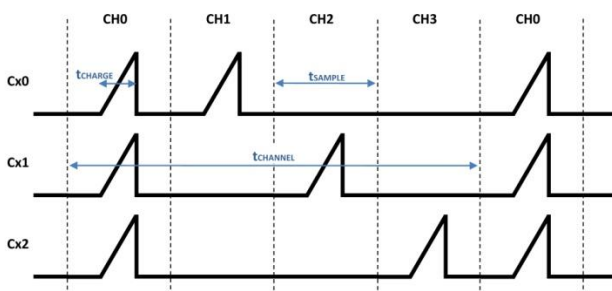

Figure 8.2 Signals on CX's / CRX's during Normal Power Mode.
With the **IQS213A** in Normal Power (NP) mode, the sense channels are charged at a fixed sampling frequency (f_{SAMPLE}) per channel. This is done to ensure regular samples for processing of results. It is calculated as each sample having a time ($t_{\text{SAMPLE}} = \text{charge period } (t_{\text{CHARGE}}) + \text{computation time}$) of approximately 2.6ms, thus the time between consecutive samples on a channel (t_{CHANNEL}) will optimally be $t_{\text{SAMPLE}} = 4 * t_{\text{SAMPLE}} \approx 10.4\text{ms}$ (or 96Hz). The charge sequence and timings are illustrated in **Figure 8.2**.